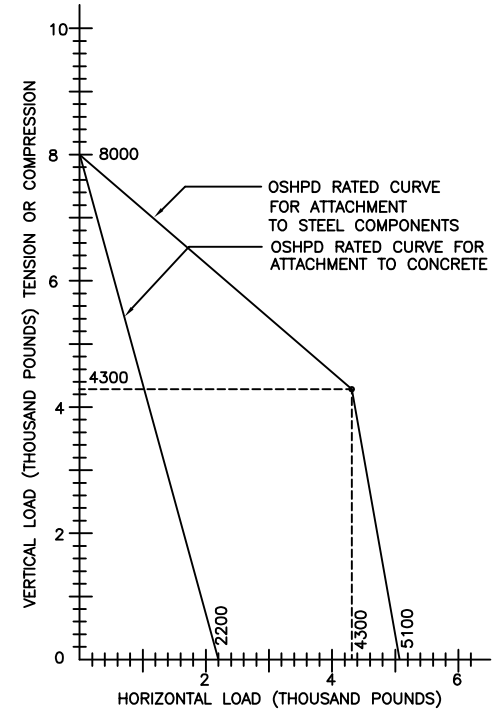

FIGURE 1
1. HORIZONTAL AND VERTICAL RATINGS OF AEQMR-2D ARE SHOWN IN FIGURE 1. ANALYSES HAVE BEEN PERFORMED IN ACCORDANCE WITH APPLICABLE CODES.
- A. FOUR (4) 3/4" DIA. HILTI "KWIK II" WEDGE ANCHORS, WITH MINIMUM 4-3/4" EMBEDMENT INTO 3000 PSI NORMAL WEIGHT CONCRETE. MINIMUM EDGE DISTANCE IS 9-3/4". (NOTE: OTHER BRANDS OF ANCHOR BOLTS ARE MAY BE USED PROVIDED THEY ARE OF EQUAL STRENGTH AND HAVE BEEN APPROVED BY OSHPD). TO ACHIEVE RATED LOAD, "SPECIAL INSPECTION" IS REQUIRED.